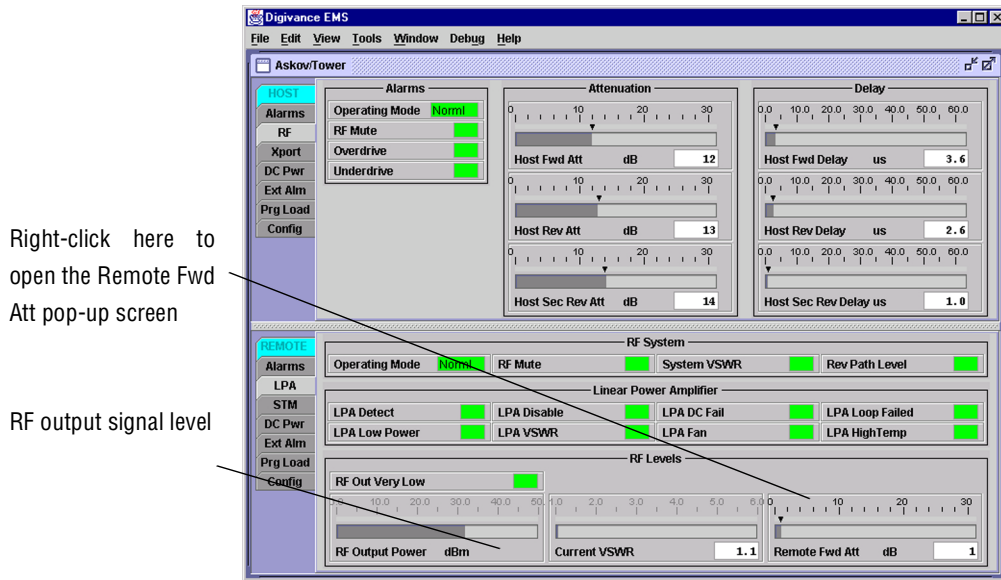
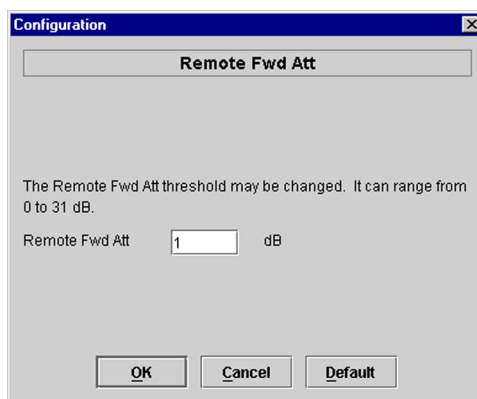

Figure 4-10. REMOTE LPA Display
Figure 4-11. Remote Fwd Att Pop-Up Screen
1. Click on the **REMOTE LPA** tab. The **REMOTE LPA** display will open within the DEMS main window as shown in Figure 4-10.
4. Right-click on the **Remote Fwd Att** section of the display (see Figure 4-10). The **Remote Fwd Att** pop-up screen will open as shown in Figure 4-11.
6. Verify that the appropriate RF output signal level appears in the **RF Pwr-VSWR Low** section (see Figure 4-10). This is primarily a reference value and should not take the place of external test equipment when determining the power level of the composite RF output signal. Depending on the modulation type and number of channels, the DEMS software may report a power level that is higher or lower than the actual RF output signal.